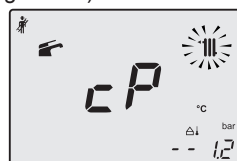

Fig. 10.24
- Press key 17 to vary the output in chimney sweep mode: when the LCD display displays the letters **cP** that alternate with the heating water temperature value (e.g. **78**), the "flue sweep function" is at maximum (eventually range rated) output in heating mode (Fig. 10.24).